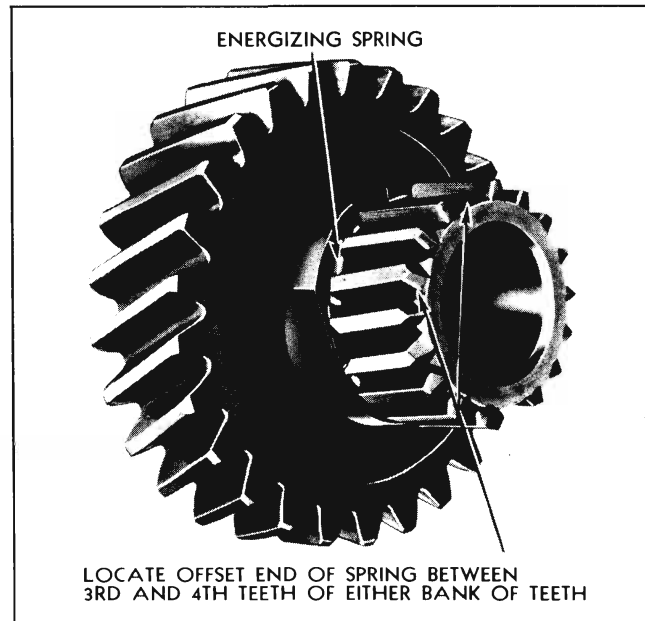

Fig. 7-41 Position of Energizing Spring
1. It will be noticed upon examining these springs that one of the ends is slightly offset. Each spring must be assembled in its groove in the clutch gear and the second speed gear with the offset or locking end between the third and fourth teeth of either of the two banks of teeth on these gears, thus keeping the spring from turning in its groove (Fig. 7-41).